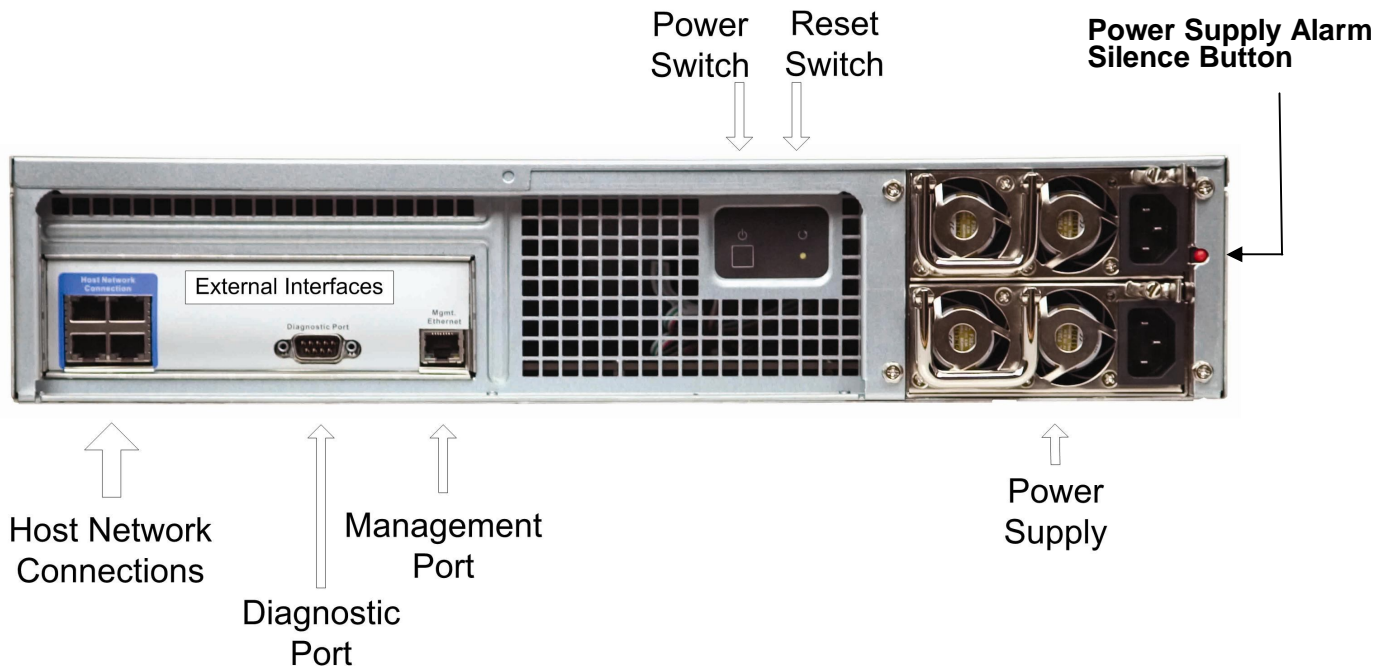
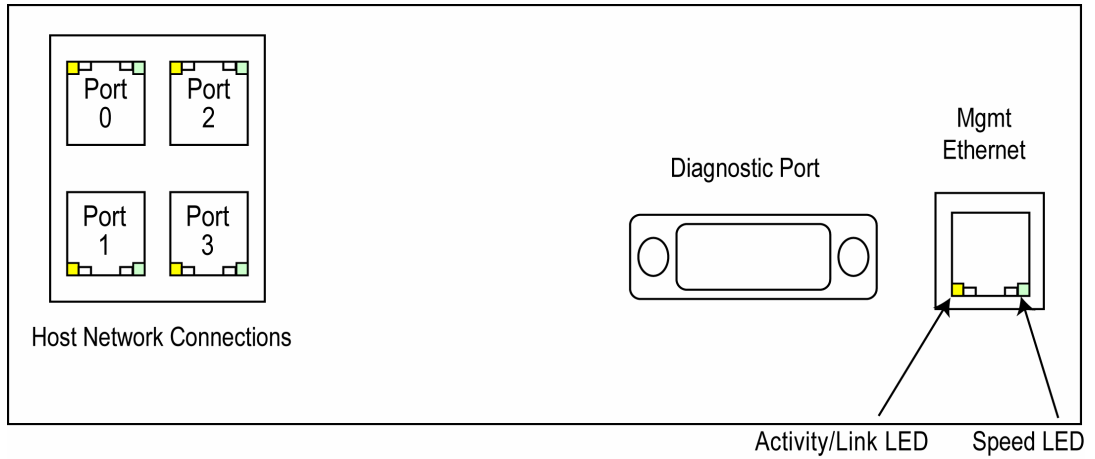
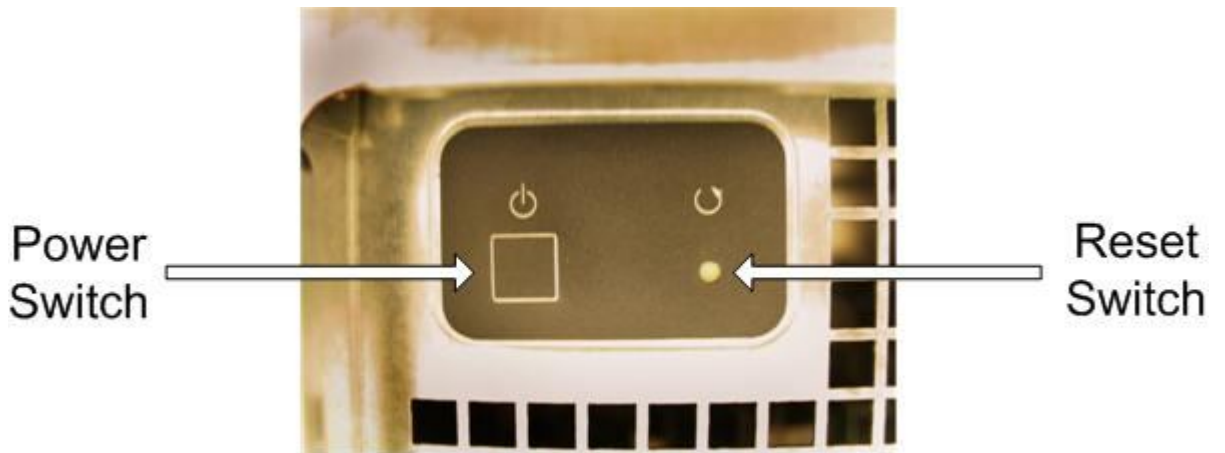

Figure 2-2 Back View of the DSN-2100 Storage System
Figure 2-3 Close-Up View of the DSN-2100 Rear Panel
Figure 2-4 Power and Reset Switches
- Four 1 GbE RJ-45 iSCSI host network data ports. Each iSCSI data port has port speed and port activity LEDs. (see Figure 2-2, Figure 2-3 and Table 2-4)
- Diagnostic port (**Diagnostic Port**) - one 9600 bps RS-232-C DB9 diagnostic port is located to the right of the iSCSI data ports. This requires a female-to-female straight-through cable provided with the system. (see Figure 2-2 and Figure 2-3)
- Management port (**Mgmt 10/100**) - one 10/100 RJ-45 management is located to the right of the diagnostic port. The management port has port speed and port activity LEDs. (see Figure 2-2, Figure 2-3 and Table 2-5)
- Power switch and reset switch - are located to the left of the power supply (see Figure 2-2, Figure 2-4 and Table 2-3).
- Power supply alarm silence button - located on the rear of the power supply. (see Figure 2-2)
2. Connect the other end of the cable into the DSN-2100 storage system **Mgmt 10/100** port. This port is located to the right of the diagnostic port on the back panel (see Figure 2-3).